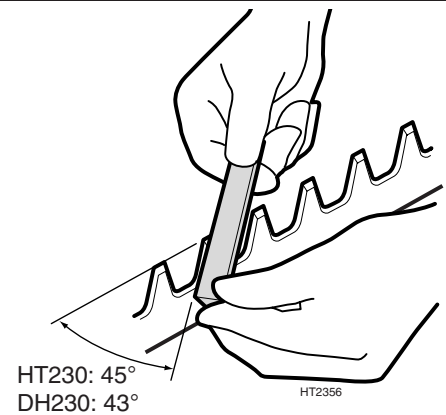

Figure 37. Grinding and sharpening the cutter bevels.
- STEP 3.** Use a rough grinding stone held at the angle shown (45°, HT230; 43°, DH230) to remove damage and restore the original bevel to the cutter edges. Use care to maintain the original shape and angle of the cutter teeth (Figure 37).